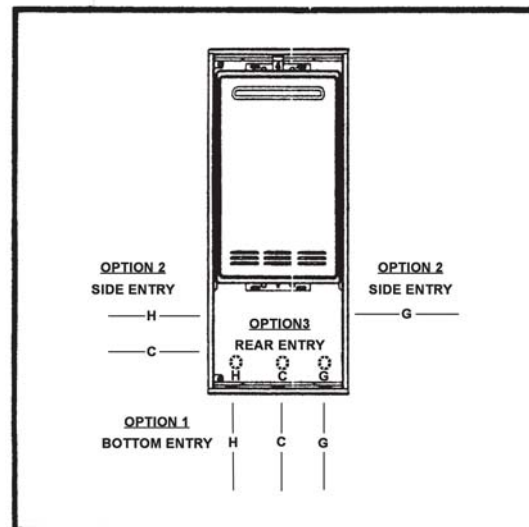

Figure 2
3. Drill holes in the recess box for the gas, cold water inlet, and hot water outlet. Suggested options for the location of these holes are shown in Figure 2, below. (An additional hole must be drilled for the electrical service for the water heater -- locate this hole in a convenient location.)